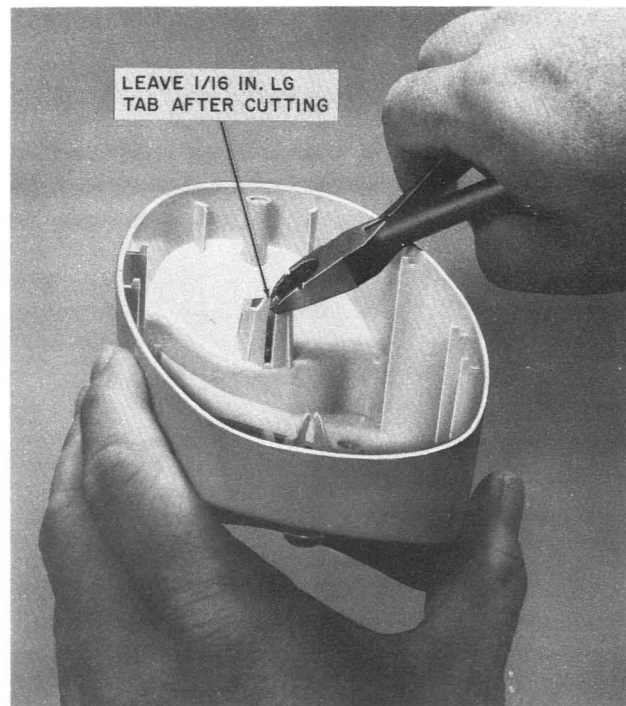

Fig. 14—Modification of Housing
- (1) Using diagonal side cutters, clip off a portion of the **plunger-well snap-tabs**, which interfere with the P-type ringer and/or network, as shown in Fig. 14.